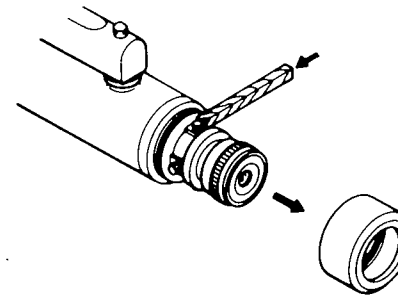

Figure 19
- If the target has moved off the vertical line, remove the reticle cover, loosen two adjacent reticle screws and rotate the reticle slightly, to correct the tilt, and re-tighten the screws (see Figure 19).